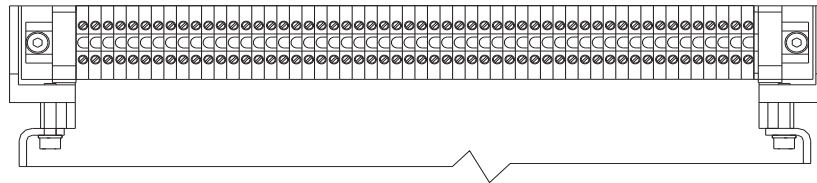

Fig. 19
- Open Clear Door (1) on the trip unit as shown in figure 19.
- Remove the Breaker Cover (2) by removing the four screws (3).
- Remove both the Side Guards (4) by removing the mounting screws (5).